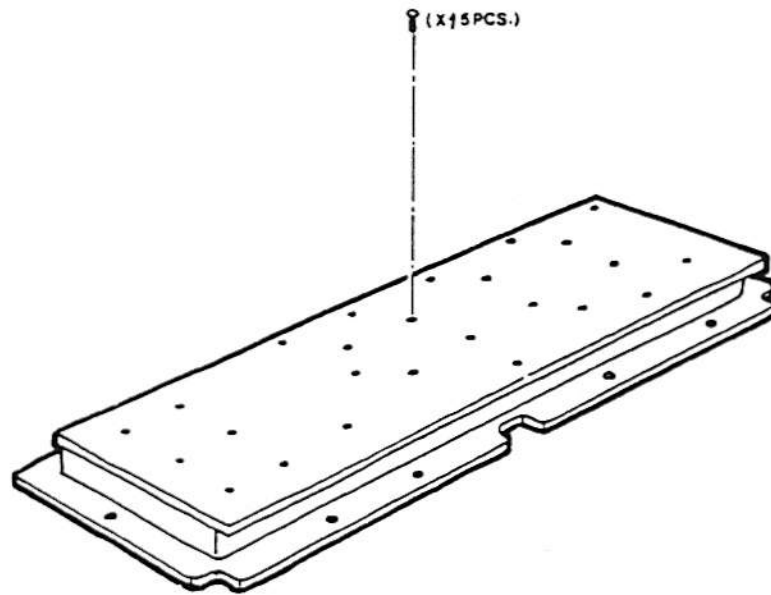

Figure 5.10 Location of Screws on Keyboard PCB
- (2) To disassemble, locate the loosen 15 self-tap screws on the Keyboard PCB. (See figure 5.10)